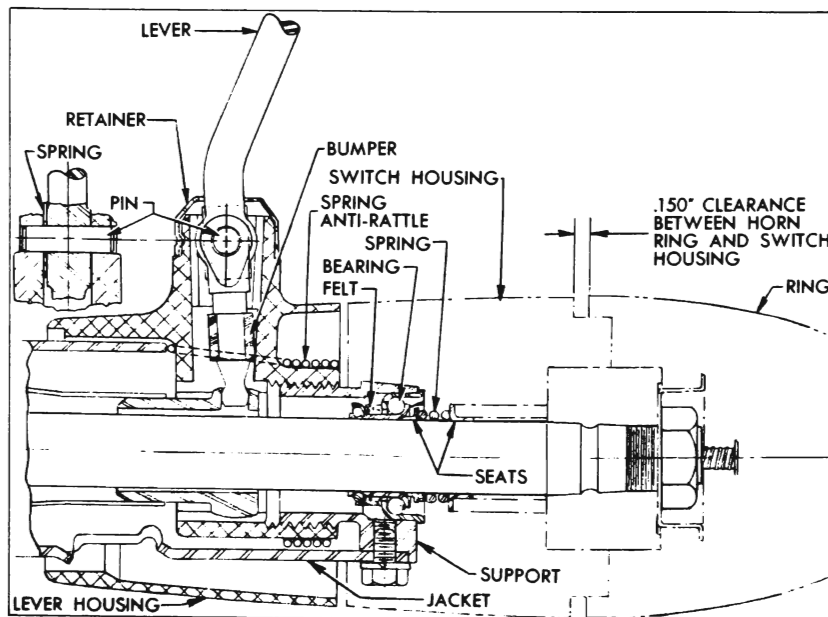

Figure 8-7—Control Lever and Adjacent Parts
3. When installing transmission control lever, install parts as shown in figure 8-7.
6. After installation of horn operating ring, adjust steering column jacket on tube of gear housing as required to provide a clearance of .150" between the operating ring and signal switch housing. See figure 8-7. Tighten jacket clamp bolt and column bracket cap bolts securely.
8. Inspect control shaft bearing in tube of gear housing and the steering shaft upper bearing in control lever housing support (fig. 8-7). Replace worn or damaged parts.